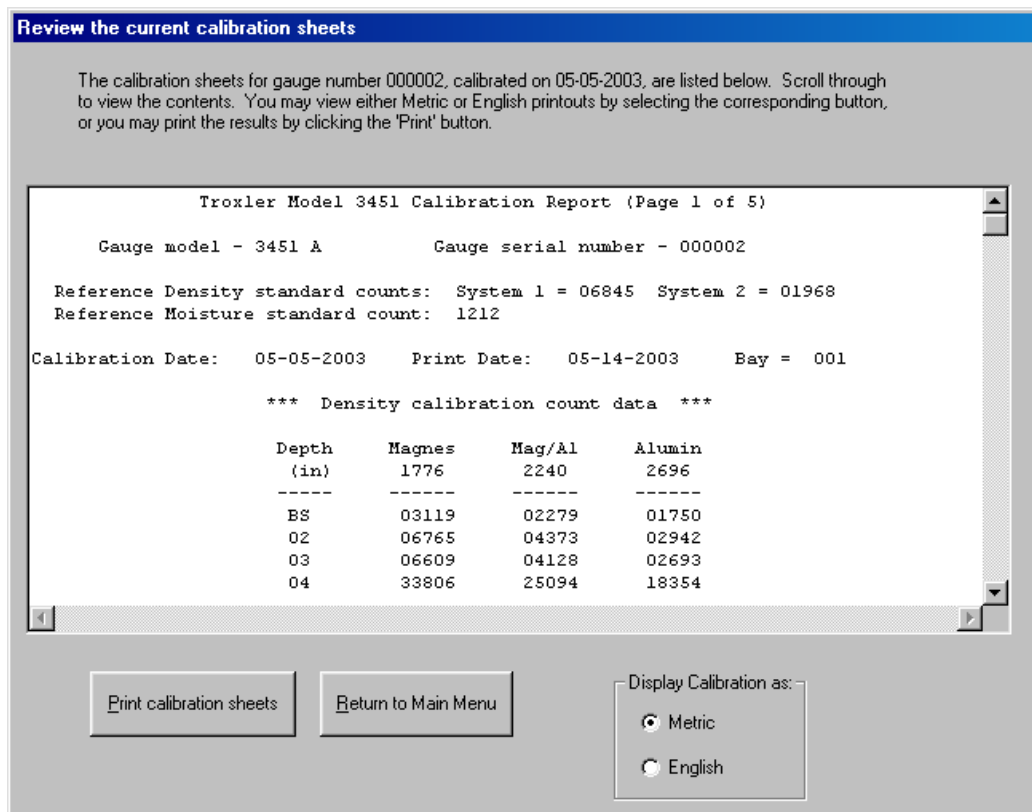

Figure 4–48. Calibration Report Review Screen
21. Wait for the report(s) to complete their printing, then click the **<Return to Main Menu>** button on the screen shown in Figure 4–48. The software returns to the **3451 Count Acquisition SubMenu** shown in Figure 4–47. Note that, unlike in Figure 4–47, the first option is no longer available.